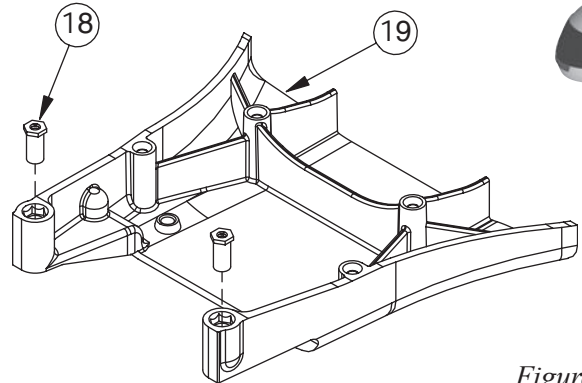

Figure 5
1. Install a Threaded Insert (18) into the top of each of the two forward holes in the main Chassis (19). The inserts should be installed with the hex-side up as shown in Figure 5. Press the Threaded Inserts all the way into the holes in the Chassis, lining up the hex on the inserts with the hex in the holes.